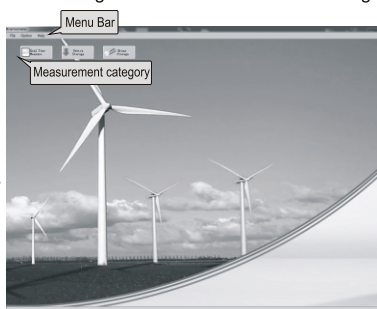

Figure 7
- Start page: as shown in Figure 7 below
- (1) Real-time measurement "Real Time Measure": Enter real-time measurement interface.
- (2) Read storage of instrument "Device Storage": Read history record of instrument.
- (3) Erase storage of instrument "Erase Storage".